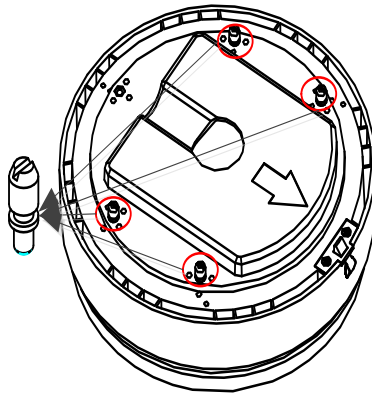

Figure 2-39 Install the bolts
3. Install 4 bolts to the screw holes as shown in Figure 2-39.